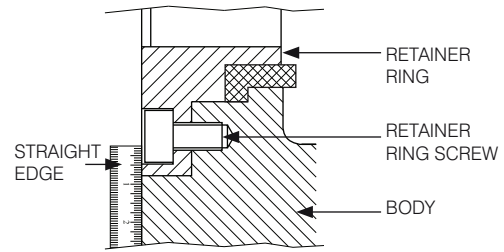

FIGURE 11
- h. Using a straight edge, tighten the bolts till the retainer rings are flush with the valve body as shown in figure 11. Do not over tighten.